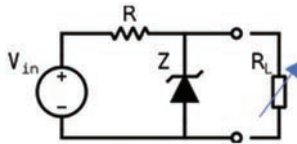

Figure 2.41 Ch 2: No. 12, self-test
12. The voltage regulator in Figure 2.41 with a 7 V Zener diode at a Zener knee current (I_{ZK}) of 1 mA. The resistor R is $80\ \Omega$, and the supply voltage (V_{in}) is 18 V.